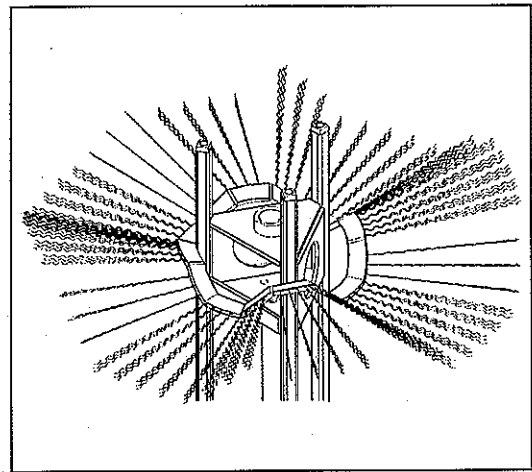

figure 20
- b. Slide the first section onto the core with the drive pins on either side of tube 1 (figure 20). Make sure that the drive pins angle up.